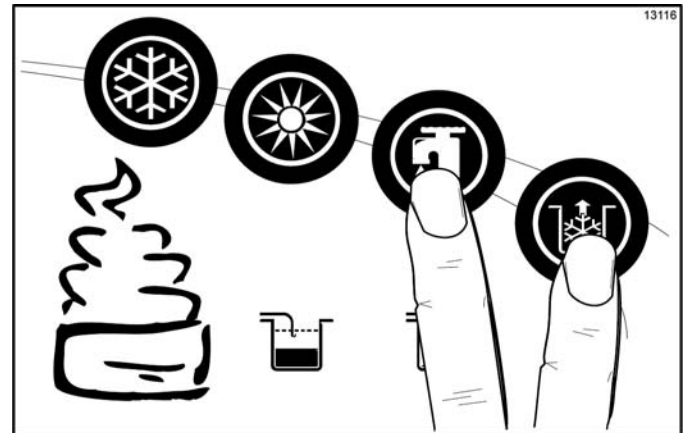

Figure 6-55
9. Press the Wash  and Pump  keys and close the draw valve. (See Figure 6-55.)